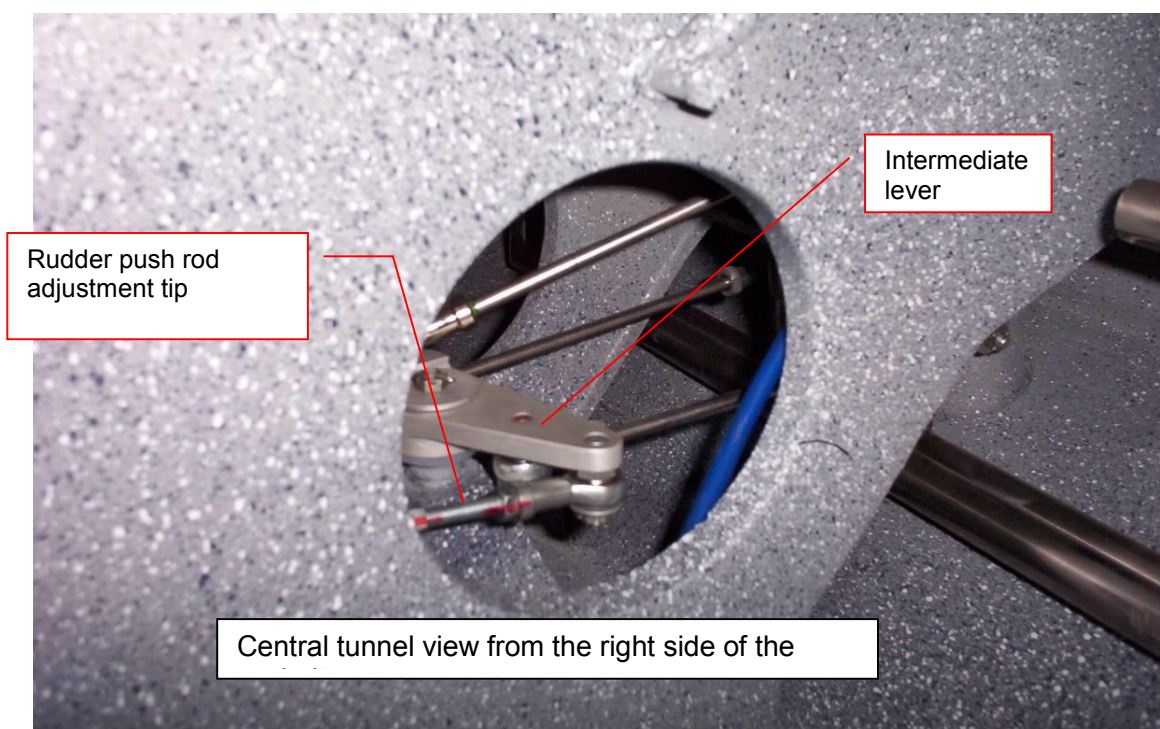

Fig. 8-10 Rudder neutral position adjustment point
- 3. Rudder control system** Rudder can be adjusted to neutral position when the pedals are in neutral position (Fig. 8-10) . Rudder deflection can be adjusted by setting the rudder push rod stops.
5. Screw in or screw out the adjustment tip (Fig. 8-10) to align the articulated head hole with the bolt on the intermediate. Put the articulated head on the bolt.